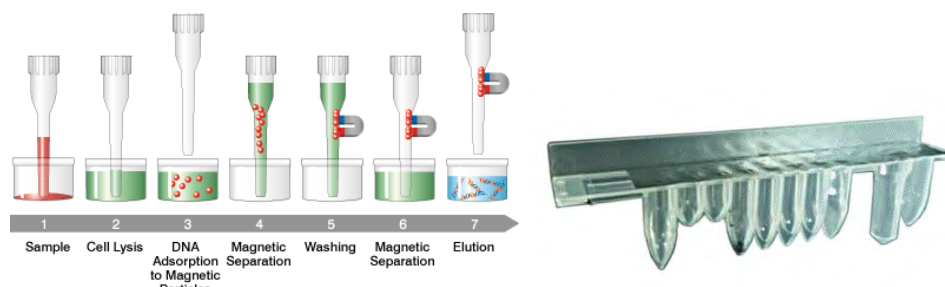

Figure 1-5: Nucleic acid extraction principle and ELITE InGenius SP 200 extraction cassette
- The reagent set has been optimized for the isolation of nucleic acids from 200 µL samples (Figure 1-5: ELITE InGenius – SP200 Extraction cassette and extraction principle).